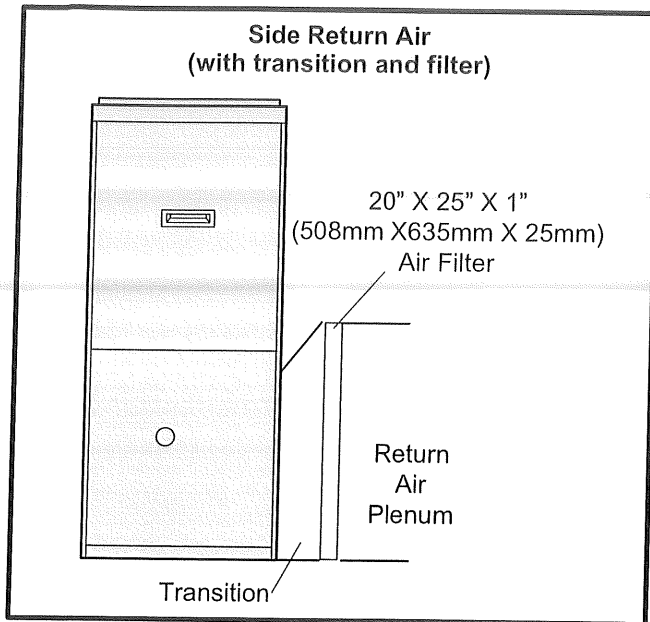

FIGURE 8
- 1 - Return air from single side with transition which will accommodate 20 x 25 x 1 in. (508 x 635 x 25 mm) air filter. (Required to maintain proper air velocity.) See figure 8.